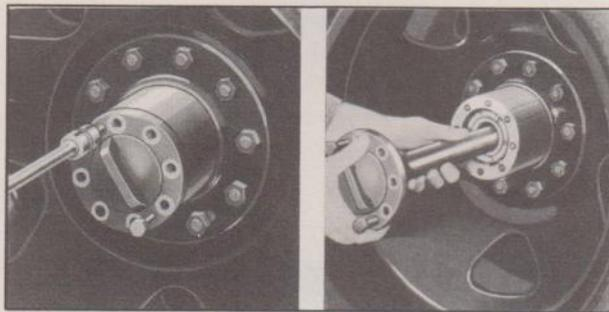

Fig. 15—Loosening and Removing Axle Shaft
3. Install two 7/16"—14 cap screws in the threaded holes provided in the axle shaft flange. Turning these cap screws alternately, the axle shaft may easily be removed. Remove the axle shaft and aluminum gasket, Fig. 15.